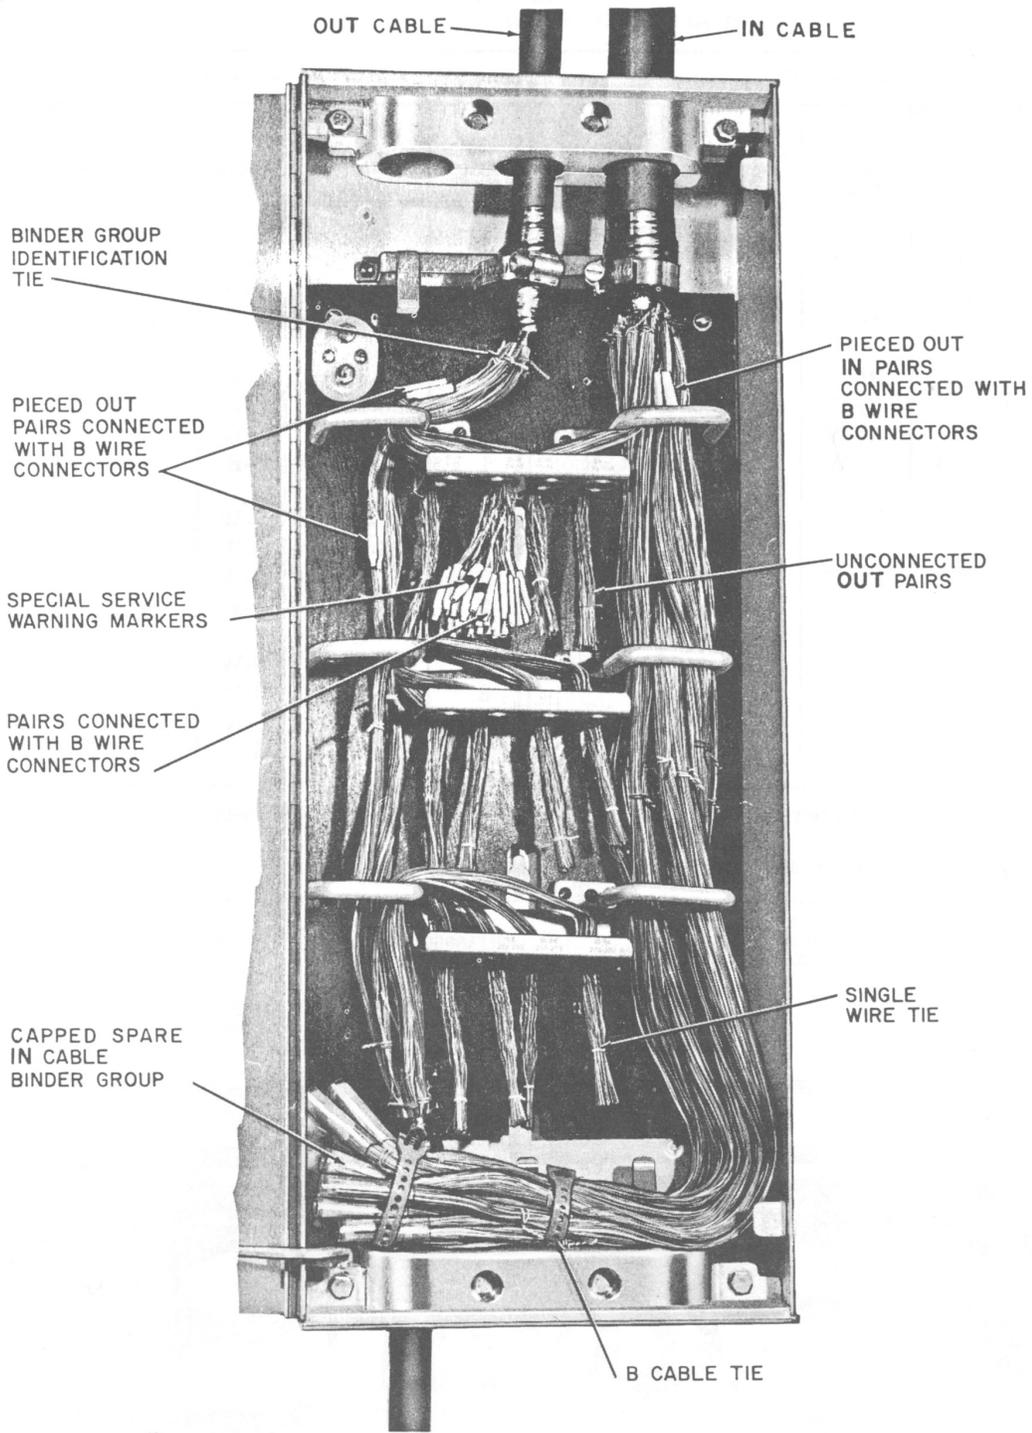

Fig. 3—5-Type Closure
4.01 When cable pairs are used for special services, it will be necessary to identify the circuits at the time the pairs are connected by wrapping a red warning marker tape around each B Wire Connector as shown in Fig. 3.